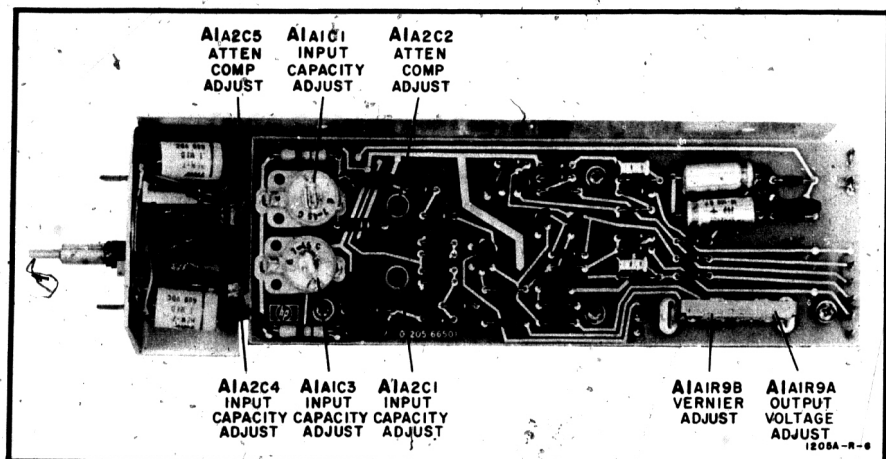

Figure 5-4. Vertical Preamplifier Module Adjustments
- d. Adjust A1A1R9B (Figure 5-4) until trace remains stationary when Vertical Vernier is turned.
- f. Repeat steps c through e for channel B, except adjust A2A1R9B (Figure 5-4) for stationary trace.
- b. Adjust A1A1R9A (Figure 5-4) for Voltmeter indication of 21.5 volts.
- c. Adjust A1A1C3 (Figure 5-4) for 45-pF indication on LC meter.
- f. Adjust A1A1C1 (Figure 5-4) for 45-pF indication on LC meter.
- h. Adjust A2A2C3 (Figure 5-4) for 45-pF indication on LC meter.
- k. Adjust A2A1C1 (Figure 5-4) for 45-pF indication on LC meter.
- p. Adjust A1A2C2 (Figure 5-4) for best square-wave response.
- s. Adjust A1A2C5 (Figure 5-4) for best square-wave response.
- u. Adjust A2A2C2 (Figure 5-4) for best square-wave response.
- x. Adjust A2A2C5 (Figure 5-4) for best square-wave response.
- aa. Adjust A1A2C4 (Figure 5-4) for 45-pF indication on LC meter.
- dd. Adjust A1A2C1 (Figure 5-4) for 45-pF indication on LC meter.
- ff. Adjust A2A2C4 (Figure 5-4) for 45-pF indication on LC meter.
- ii. Adjust A2A2C1 (Figure 5-4) for 45-pF indication on LC meter.